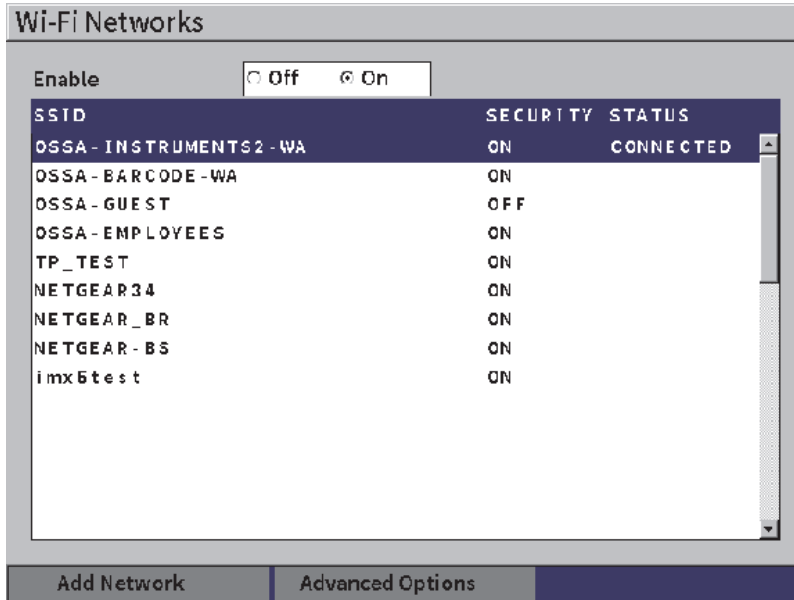

Figure 10-1 Wi-Fi Networks setup page
2. Select the **Wi-Fi** icon () to open the **Wi-Fi Networks** setup page (see Figure 10-1 on page 166).